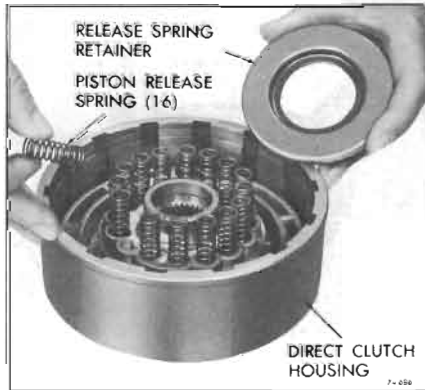

Figure 74-686
5. Install sixteen (16) springs into the piston. See Figure 74-686.